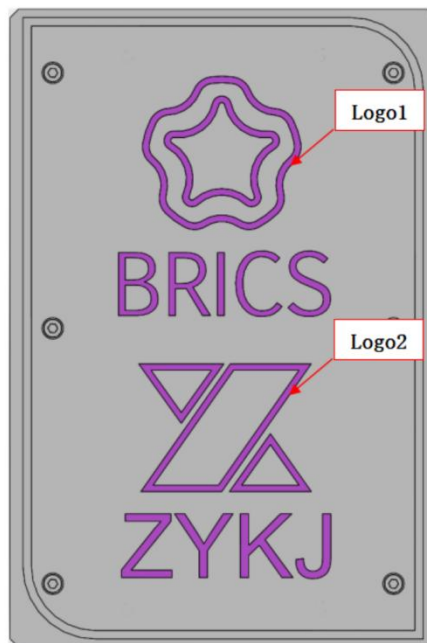

Figure 8. Track pattern
Task A2: automatically install the brush, draw the track pattern as shown in Figure 8, and automatically uninstall the brush
- 2) Automatically install the brush, draw the track pattern as shown in Figure 8 (purple), and automatically uninstall the brush, and there can be an appropriate delay in the middle, and the whole process needs to be completed continuously in one program;